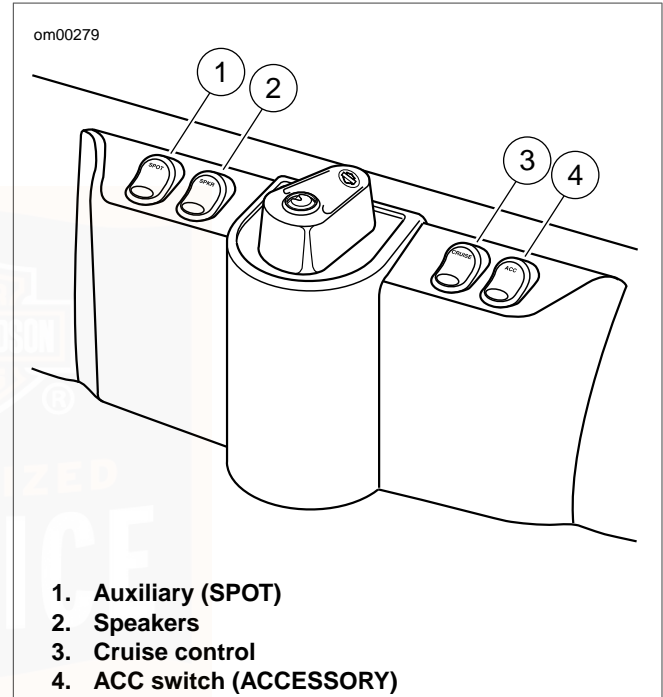

Figure 20. Switch Indicators
See Figure 20. All touring models have an accessory switch (4) for the owner's use. This switch is located on the right side of the fairing (FLHT) or left side triple clamp shroud (FLHR).
See Figure 20. Use the auxiliary lamp switch (1) to turn ON the auxiliary lamps as required.